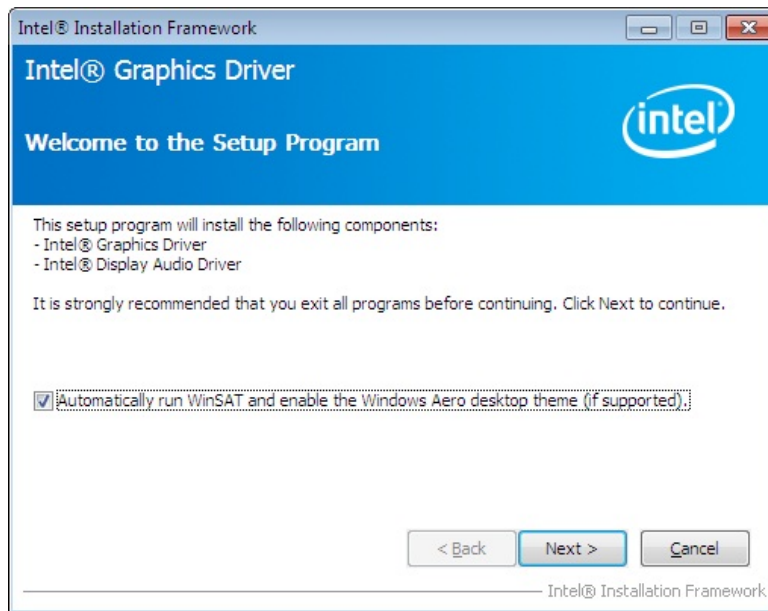

Figure 6-9: VGA Driver Welcome Screen
Step 6: When the setup files are completely extracted, the **Welcome Screen** in **Figure 6-9** appears. Click **Next** to continue.